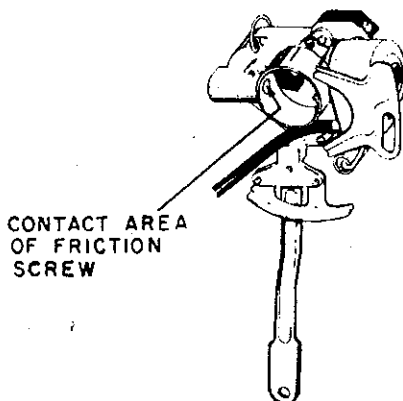

Figure 17
- A. Apply a small amount of E.P. lithium grease to the contact area of the friction screw. Do not turn the screw into the radius of the stator collar. (See Figure 17.)